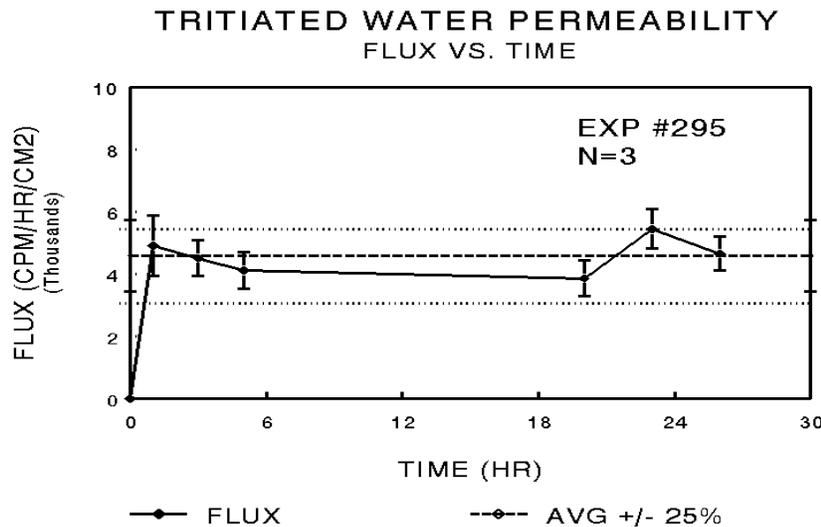

Figure 2: Flux Versus Time Plot Showing Average Calculated Flux With Error Bars of +/- 25%. Steady state reached after 0.5 hrs.
i) **Determination of average flux:** At some point during the experiment, steady state should be achieved, i.e. the flux should become constant ($\pm 20\%$). The average flux is computed by averaging the flux over all the time intervals once steady state has been reached. *Note: If the permeation times suggested above in e) are utilized, the overnight interval (between 5.0 and 21.0 hrs) will often show a different permeation value than the others. If the overnight flux differs by more than 25% from the average, it should be ignored and not used in the calculation of the average steady state flux. A typical flux versus time plot is shown in Figure 2.*